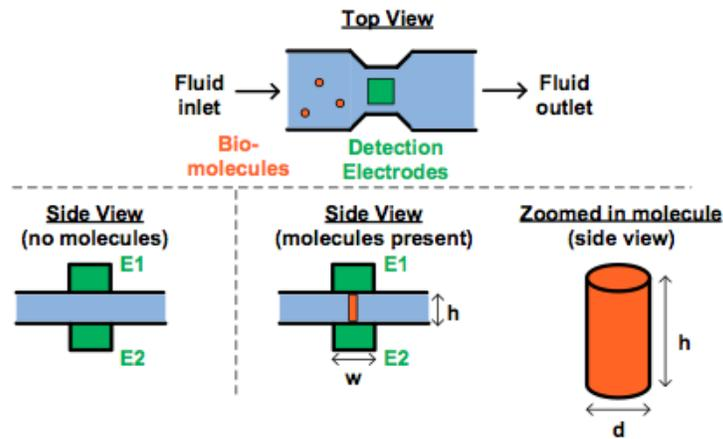

Figure 1: Bio-molecule detector.
As shown in Figure 1, the detector works by flowing a liquid that may or may not contain the biomolecules through a region in the device that has electrodes on the top and bottom of the liquid channel. The electrodes (E1/E2 in Figure 1) are chemically “functionalized” (using e.g. some appropriately designed antibodies), so that if the specific bio-molecule of interest is present in the fluid sample, one or more of the molecules will get physically trapped between the two electrodes (bottom right of Figure 1). After all of the fluid has been
- Let's first assume that we want to detect the presence of a bio-molecule by measuring resistance. If no bio-molecule is present, what should be the resistance between E1/E2? As shown in Figure 1, if each bio-molecule is a cylinder with diameter $d = 10\text{nm}$, height $h = 100\text{nm}$, and has a resistivity $\rho = 100\mu\Omega\text{m}$, what would be the resistance between E1 and E2 if only a single bio-molecule has been trapped? Note that you can assume that the trapped molecule is exactly vertically oriented when it is trapped – i.e., the top and bottom faces of the molecule are both aligned with surfaces of the electrodes.